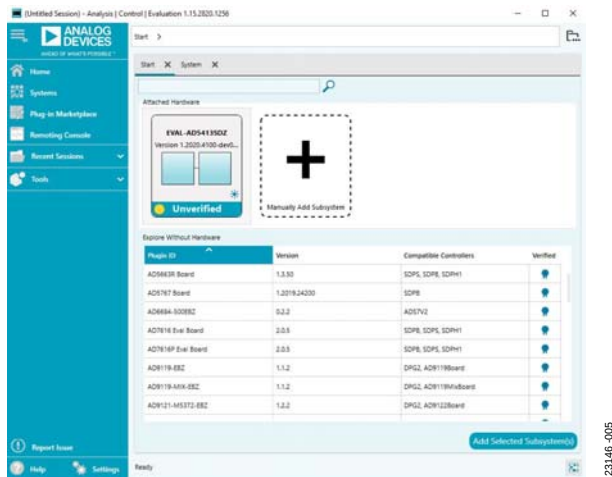
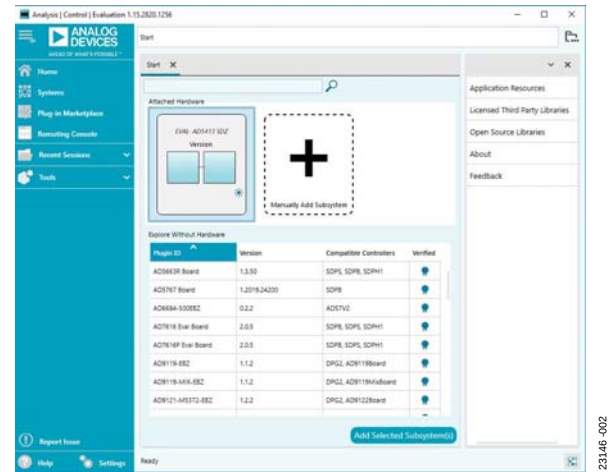
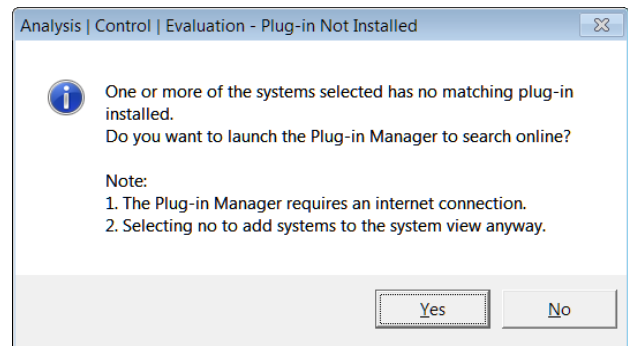
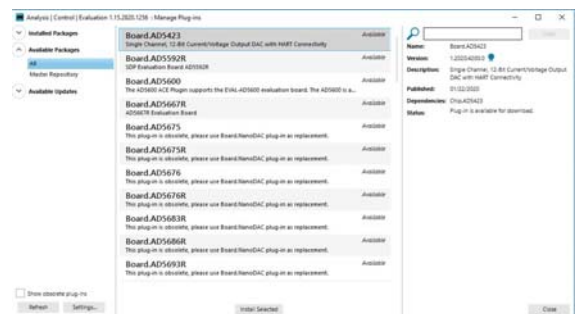

Figure 2. Attached Hardware Section with the EVAL-AD5413SDZ Plugin Connected
Figure 3. EVAL-AD5413SDZ Plugin Not Installed
Figure 4. Installing the Plugin Pop-Up Window
Figure 5. Plugin Manager Window
5. When setting up the EVAL-AD5413SDZ for the first time, you may be required to install the EVAL-AD5413SDZ plugin. If the plugin appears as shown in Figure 2, proceed to Step 7. If the plugin appears as shown in Figure 3, double-click the evaluation board symbol, and the pop-up window shown in Figure 4 appears. Click **Yes**.
6. The plugin manager window appears, as shown in Figure 5.
7. Find and select the **Board.AD5413** plugin and click **Install Selected**. The EVAL-AD5413SDZ plugin is now installed and displays as shown in Figure 2. In Figure 5 only, the **AD5413** is synonymous with the **AD5423**.